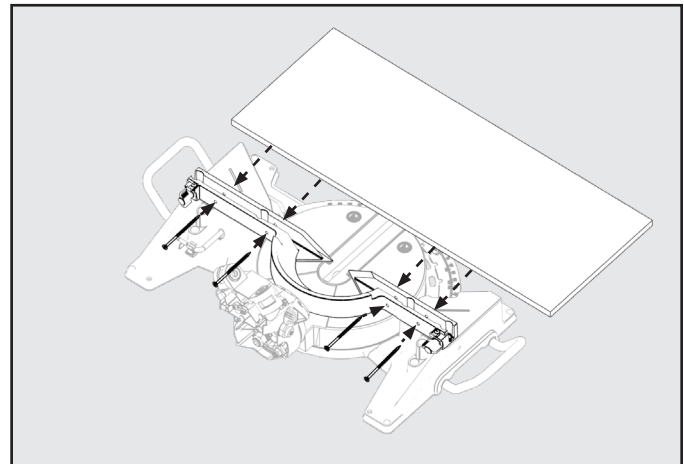

Figure 39
**NOTE:** The Auxiliary Table Board should be as wide as the lower (fixed) fence and secured to the lower fence using wood screws, see Figure 39.